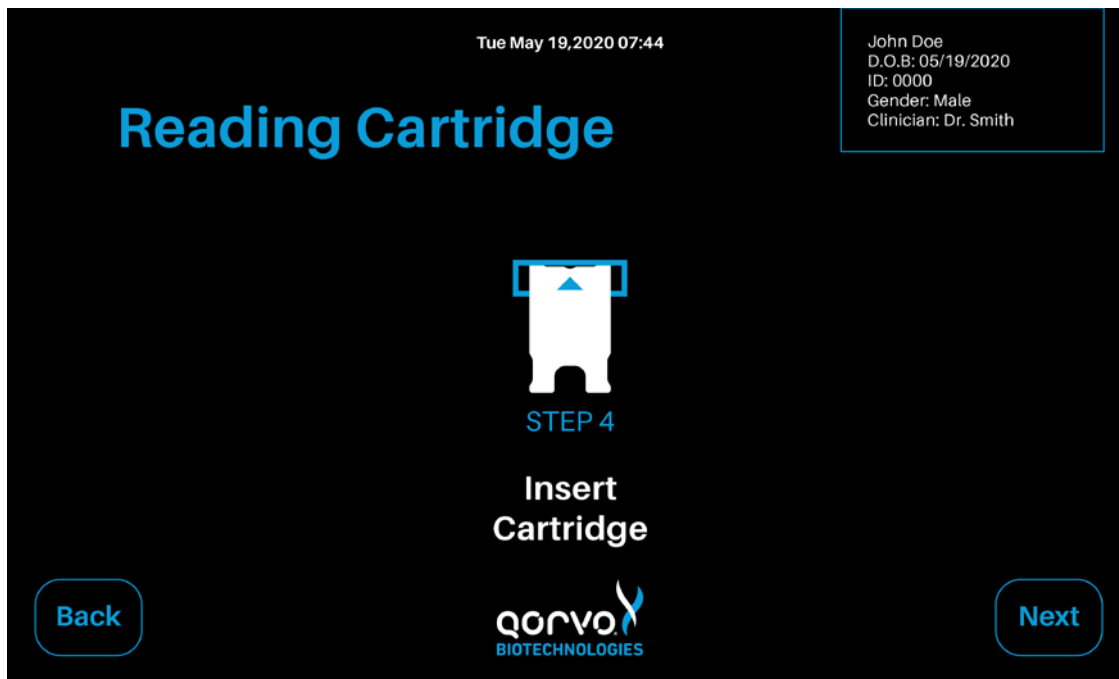

Figure 26
8. Place the cartridge into instrument by holding the sample-port end with the cartridge label facing up and following the arrow-indicated insert direction displayed on the cartridge label (Figure 26). Gently push the cartridge into the Cartridge Receiver until the instrument accepts and draws in the cartridge.